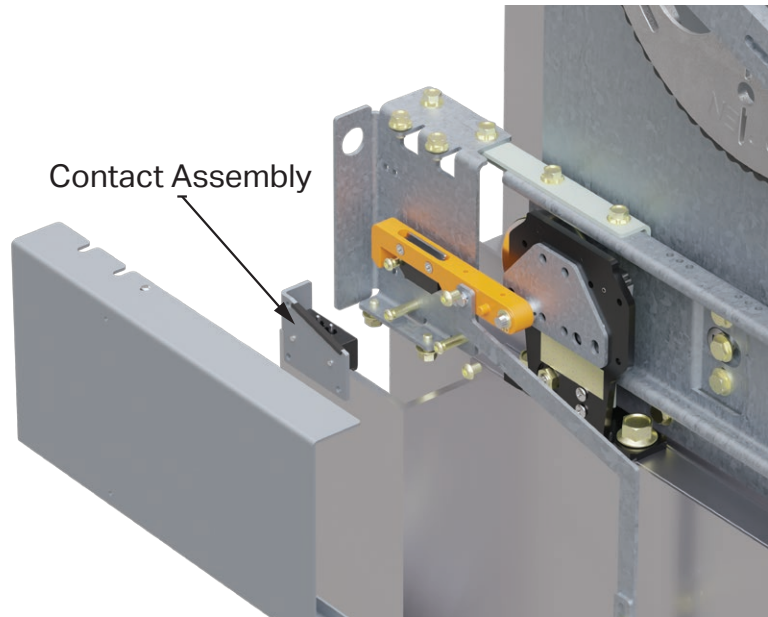

Figure 31: Contact Assembly
7. Remove the cover and the contact assembly, as shown in **Figure 31**, Section 3.6.